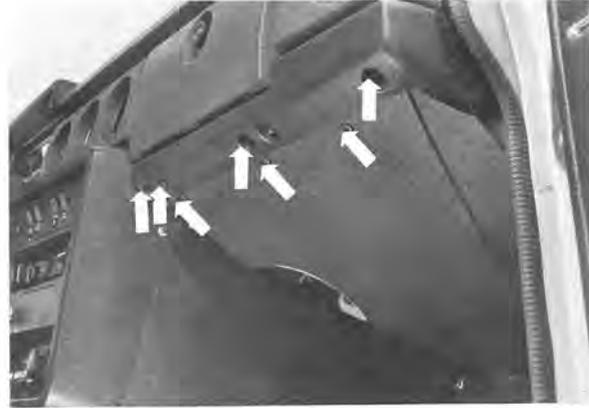

Fig. 8-59. Removing locking for turbine
9. Remove the turbine wheel locking with the help of two screwdrivers (Fig. 8-59), and remove the turbine.
7. Remove the turbine wheel locking with the help of two screwdrivers (Fig. 8-59) and remove the turbine.